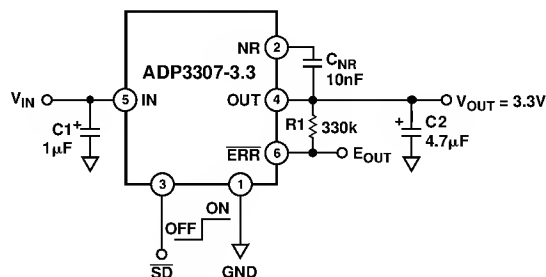

Figure 21. Noise Reduction Circuit
A noise reduction capacitor ( $C_{\text{NR}}$ ) can be used to further reduce the noise by 6 dB–10 dB (Figure 21). Low leakage capacitors in 10 nF–100 nF range provide the best performance. As the noise reduction capacitor increases the high frequency loop-gain of the regulator, the circuit requires a larger output capacitor if it is used. The recommended value is 4.7  $\mu\text{F}$ , as shown in Figure 21. Since the noise reduction pin (NR) is internally connected to a high impedance node, any connection to this node should be carefully done to avoid noise pick up from external sources. The pad connected to this pin should be as small as possible. Long PC board traces are not recommended.